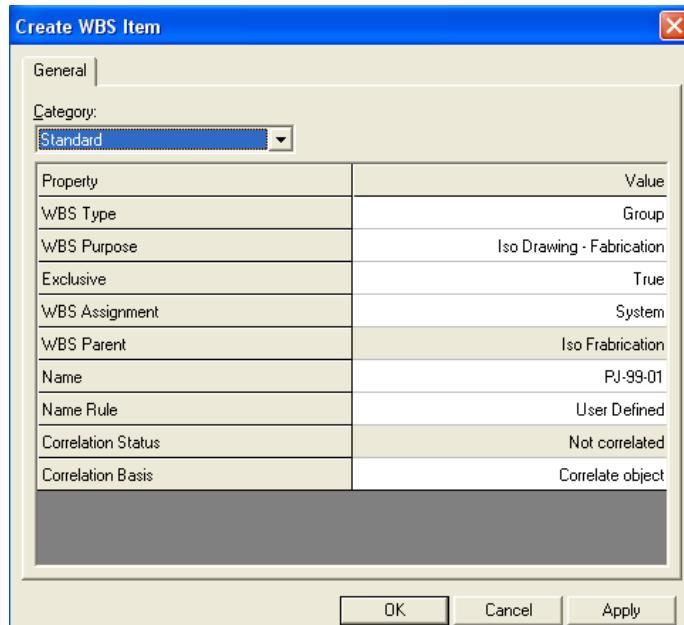

Figure 8: Create WBS Item Dialog Box
11. Select the property specifications, as shown in Figure 8, and Click **OK**.